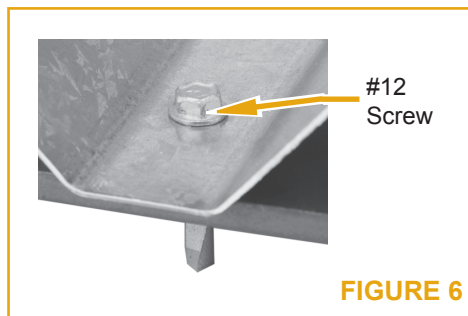

FIGURE 6
**Screws:** #12 self-drilling, self-tapping screws are to be installed as shown in Figure 6.